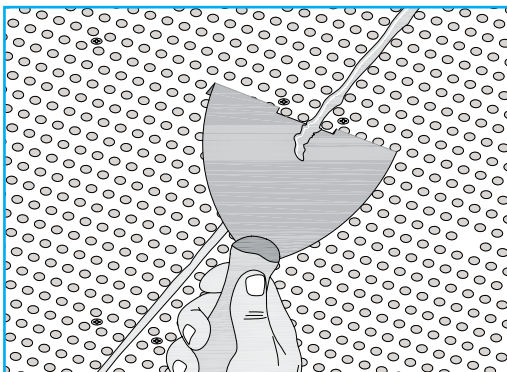

FIGURE 15 'Chipping' Off Excess Uniflott
- Scrape off excess Uniflott after hardening has begun (45 minutes in normal conditions). *[Figure 15]*